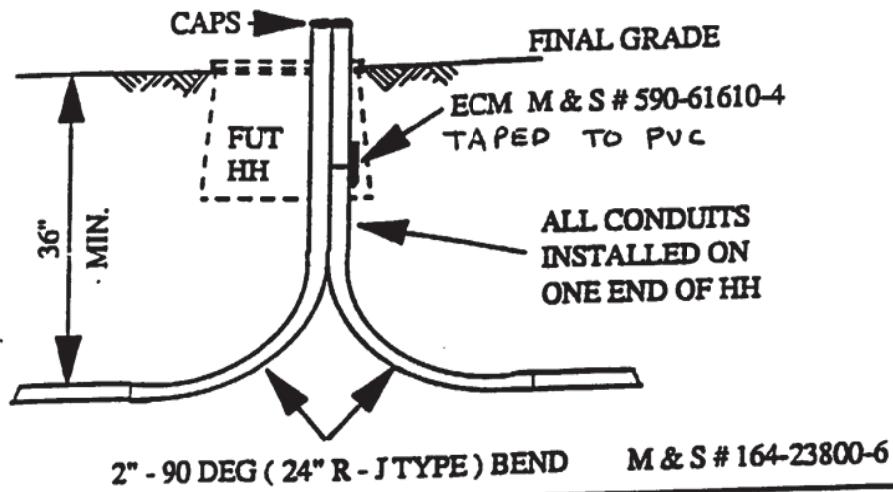

FIGURE 2A
12. Primary splice handhole to be installed with electronic cable marker. (Figure 2A)